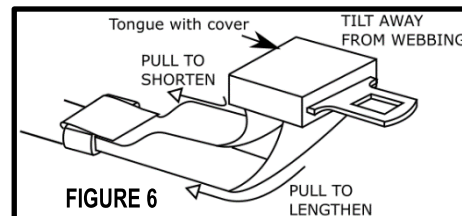
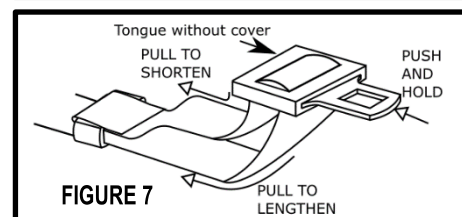

FIGURE 6
FIGURE 7
3. To adjust the belt, tilt the adjuster away from the webbing (about 30° or more) as shown in figure 6. While the adjuster is tilted, shorten by pulling the shorter webbing (furthest away from your body when you are wearing the belt), or lengthen by pulling the other webbing. Then move the slider to remove any slack. Alternatively, for the tongue without the cover, push and hold onto the tongue as shown in figure 7. You may unbuckle to adjust your belt if necessary.